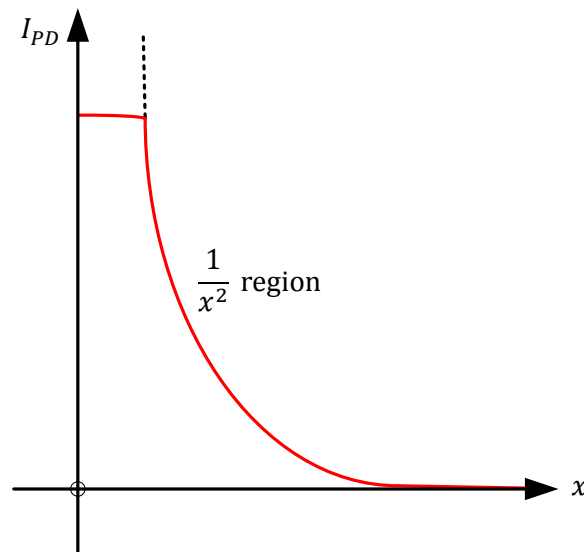

Figure 6: Theoretical photocurrent versus separation length curve.
Graphing, the following characteristic is obtained, Figure 6:
3. Plot the table of values obtained in Part 2 using Excel, MATLAB, etc. Does this figure reproduce the graph suggested in Figure 6?